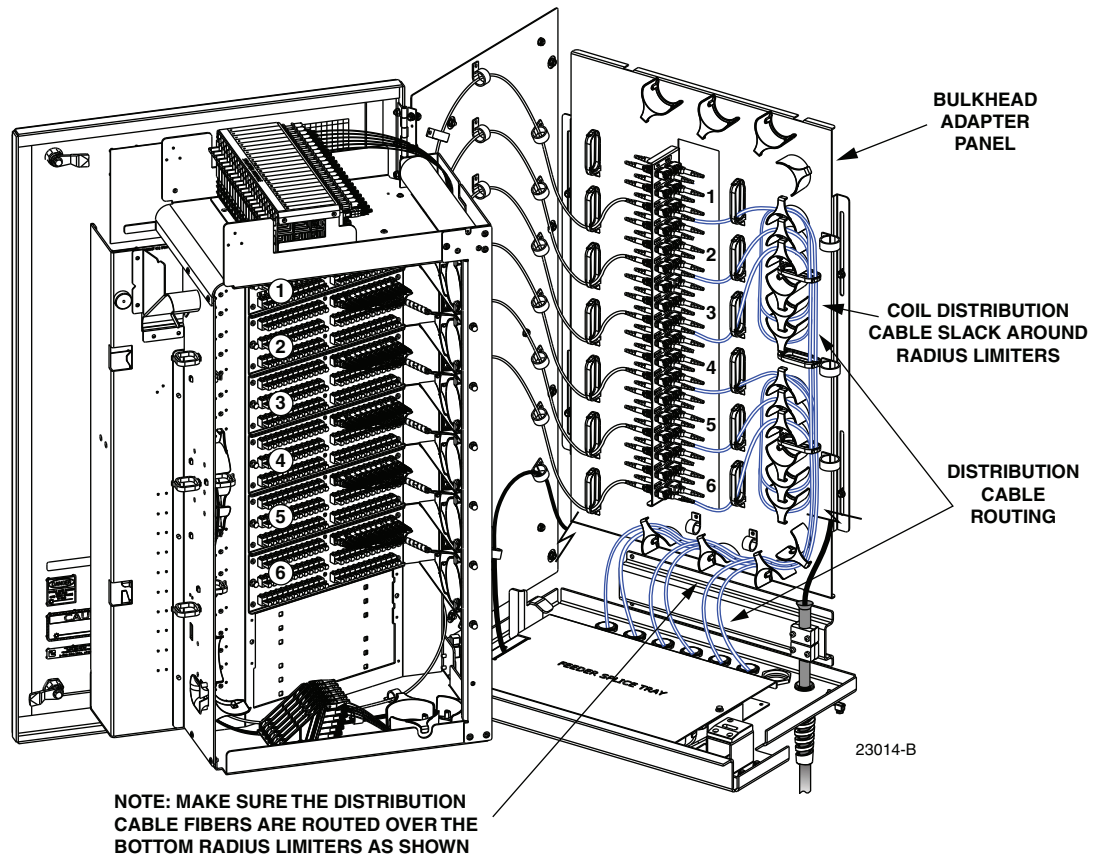

Figure 60. Routing Distribution Cables to Bulkhead Adapter Panel
12. Route each distribution cable to the appropriate adapter on bulkhead adapter panel as shown in Figure 60.